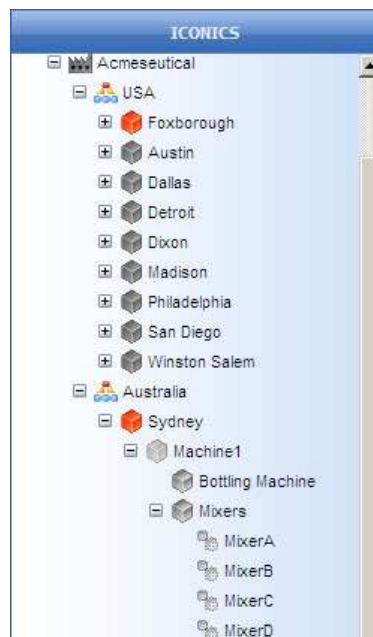

Figure L4.6 - Complete Asset Tree
28. After you add the Area-level assets, you can try using the “Copy Assets to” feature to insert Machine1 into each area. Your finished Asset Tree will look similar to Figure L4.6